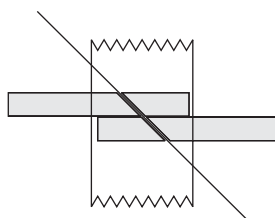

Fig. 11: 45° cuts of belt ends
**Step 71:** To become familiar with the glueing technique, first practice with a piece of the 4 mm round belt. Cut the ends of the belt at identical 45° angles, in order to increase the glueing surface. To do this, lay the ends, facing one another, on your cutting surface, overlapping about 1 cm and directly side by side. Secure them in place with a piece of sellotape (see fig. 11). Now position a set square or ruler on the belt at a 45° angle, push it down to hold the ends in place and then cut through them with a sharp knife. Remove the tape. You should now have two identical oval cuts at the ends. Roughen the surface up very gently with fine sandpaper and do not touch the cutting surfaces with your fingers.